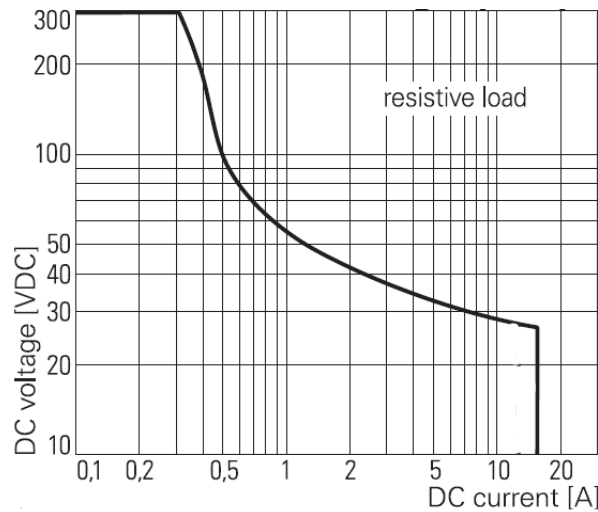

Figure 3-6: Max. DC load breaking capacity
* For DC Voltage and Current, refer Figure 3-6.